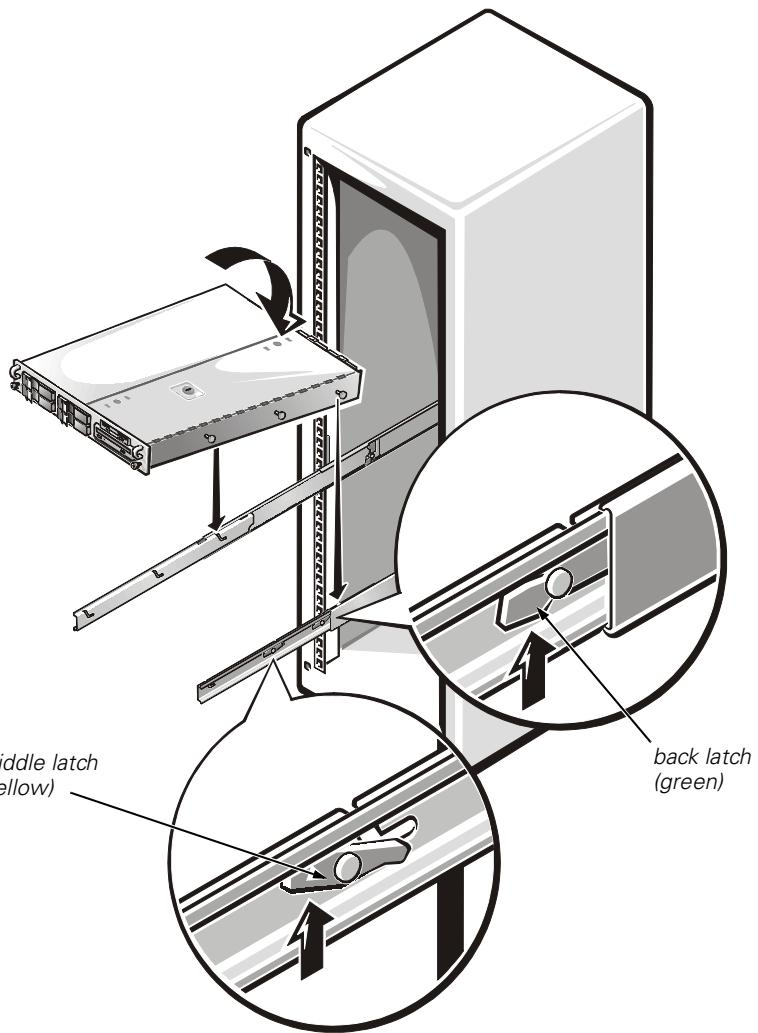

Figure 1-10. Installing the System in the Rack
| Figure 1-10. Installing the System in the Rack..... | 1-12 |
4. Tilt the system while aligning the back shoulder nuts on the sides of the system with the back slots on the slide assemblies (see Figure 1-10).
6. Push the system inward on the slide assemblies until the middle (yellow) latch clicks into place, locking the slide to the middle shoulder nut (see Figure 1-10).